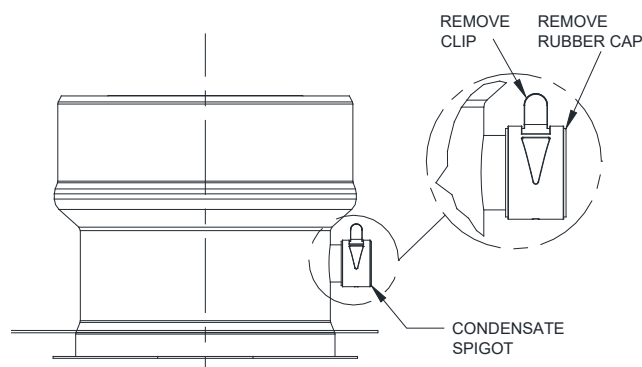

Figure 17 - Condensate Drain Spigot
This spigot is covered by a rubber cap held in position by a clamp. For certain types of installations, it will be necessary to remove the clamp and cap and create connection to the condensate manifold assembly built in with the system. Refer to Figure 17.
1. Remove the clamp and rubber cap from the condensate drain spigot on the water heater flue outlet. Discard the clamp and the rubber cap as shown in Figure 17 - Condensate Drain Spigot.